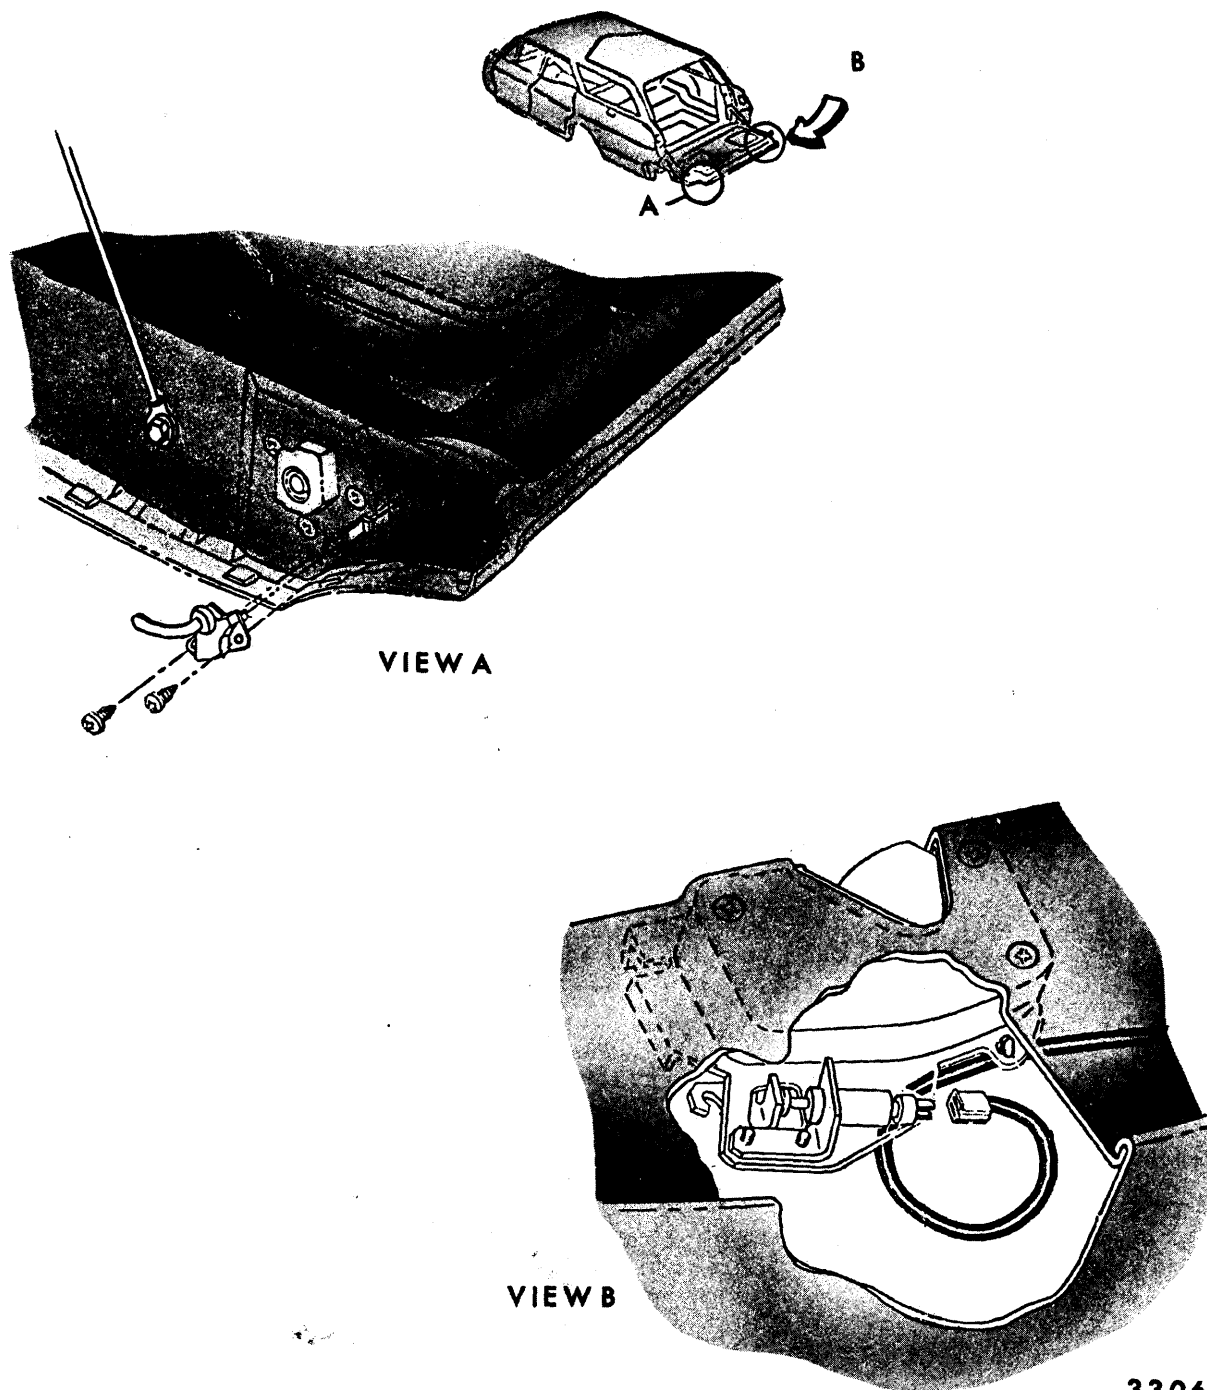

Fig. 16-23—Power Tail Gate Window Safety Switches
1. With the single acting tail gate open, depress switch arm to simulate the tail gate being closed. (Refer to View A Fig. 16-23).
2. With the dual acting tail gate open as a tail gate, manually trip (View B, Fig. 16-23) upper right and left lock assemblies to lock position to simulate tail gate being closed (Refer to "Tail Gate Section" of Manual).